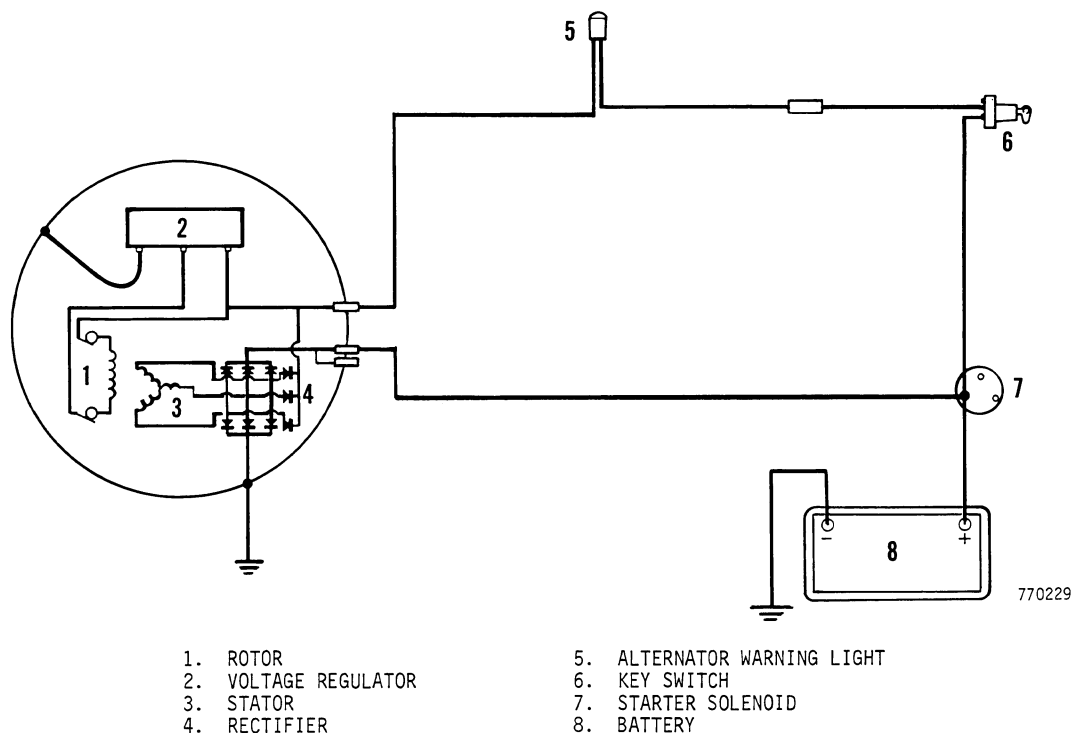

Figure 1 - Alternator Charging Circuit
The alternator charging circuit consists of the battery, alternator with self contained voltage regulator, key switch, alternator warning light, and related wiring. The circuit is schematically illustrated in Figure 1.
12. Install new filter and secure in place with washer, spring and nut. Screw nut onto stud to obtain the dimension shown in Figure 1. The nut must be properly installed to prevent damage to the reservoir.